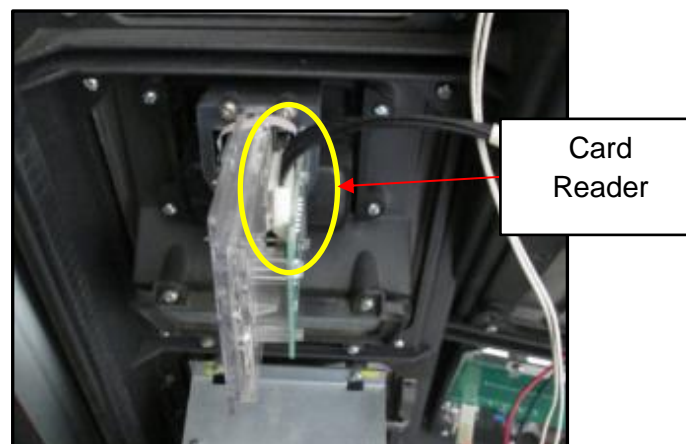

Fig 5 – Card Reader Cable
6. Unplug the card reader cable assembly. (Fig 5)